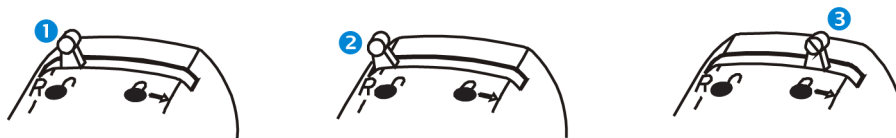

Figure 7 Properly Connecting a Probe to the Oscilloscope
- 1 As shown in **Figure 7**, with the lever in the relaxed position ① push the probe onto the BNC. The lever moves towards the **R** (release) ② and returns to the  symbol.
- 2 Move the lever towards the  symbol until snug. ③